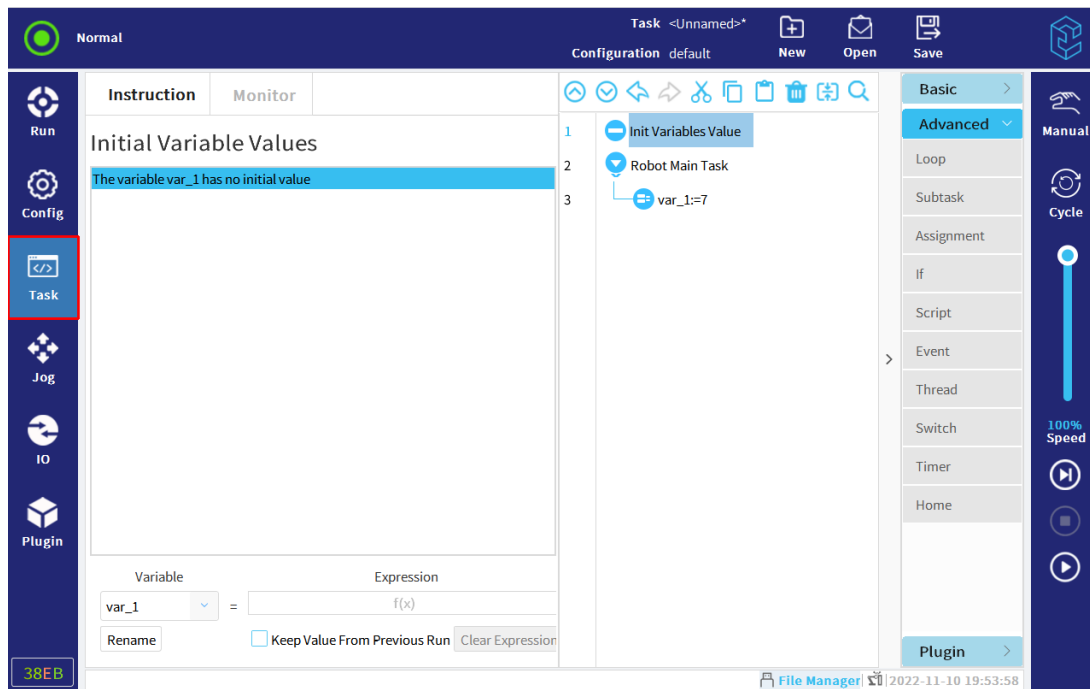

Figure 3-80 : Select initial variable interface
1. The user can select a variable from the "Variable" drop-down list or from Initial Variable Values selector box, as shown in **Figure 3-80** .